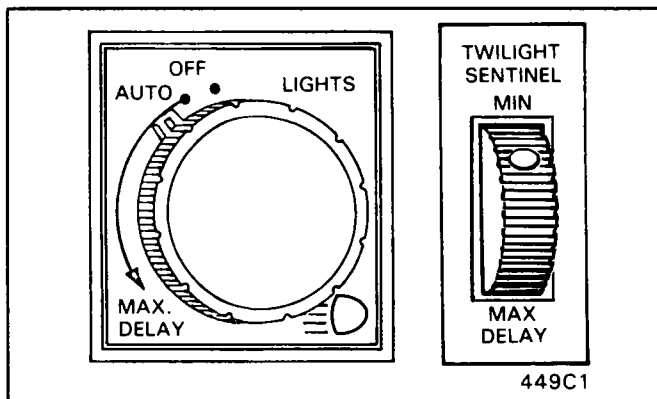

Figure 9C-1 Typical Sentinel Controls
The Twilight Sentinel operates automatically when (1) the ignition switch is on, (2) the headlight switch is off, and (3) the control rheostat (Figure 9C-1) is on (any position away from the OFF position). When these conditions are met, the system turns on lights automatically when road illumination becomes necessary. As daylight increases in the morning and road illumination is no longer necessary, it turns the lights off.